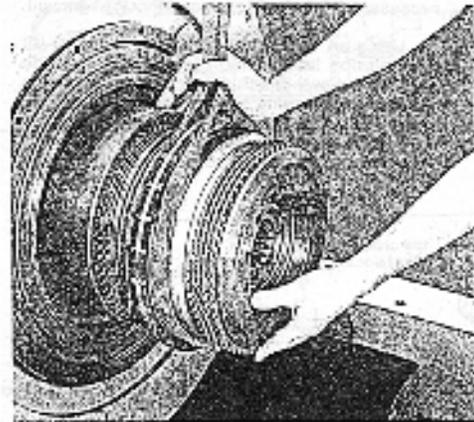

Figure 9. Installing Clutch on Drive Flange Shaft.
16. Using adequate hoist, install clutch on drive flange shaft (see fig.9) being careful that disc teeth enter driving drum properly. Forward end flange marked "toward engine" must be placed toward the engine flywheel. The forward pack contains more discs and must go toward the engine or severe damage may result.